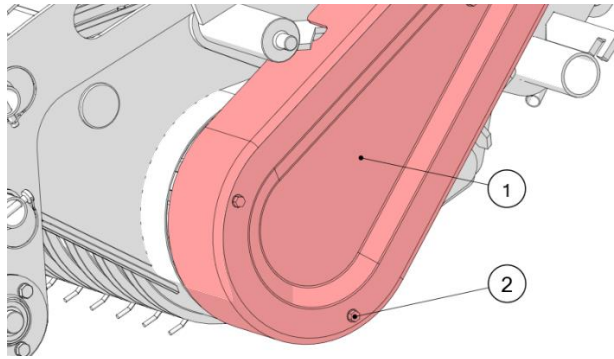

Figure 12. Left pick-up cover
- As shown in Figure 12, remove the left pick-up cover (1) by loosening the bolts (2)